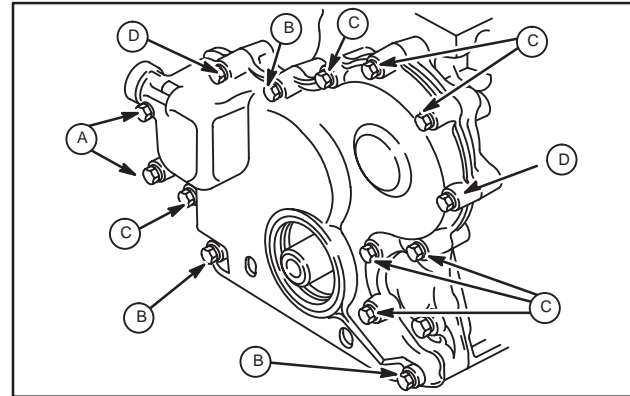

Fig. 21 – Installing Timing Gear Cover
7. Install timing gear cover with new gasket. Note position, length and number of screws as shown, Fig. 21.